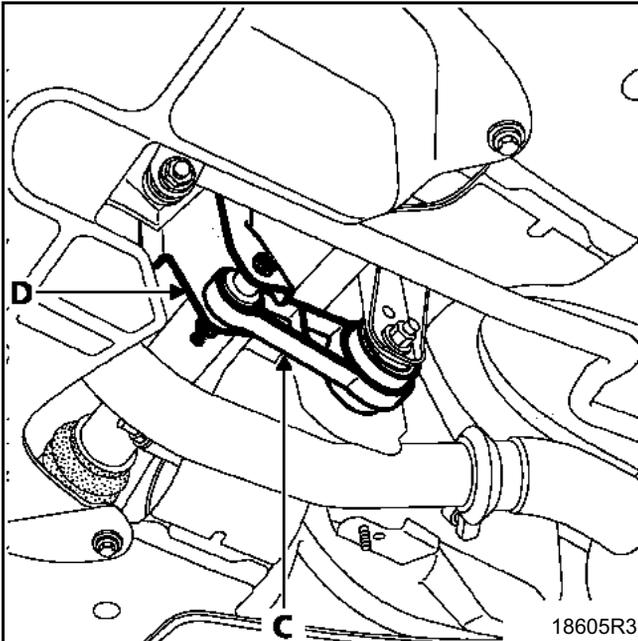
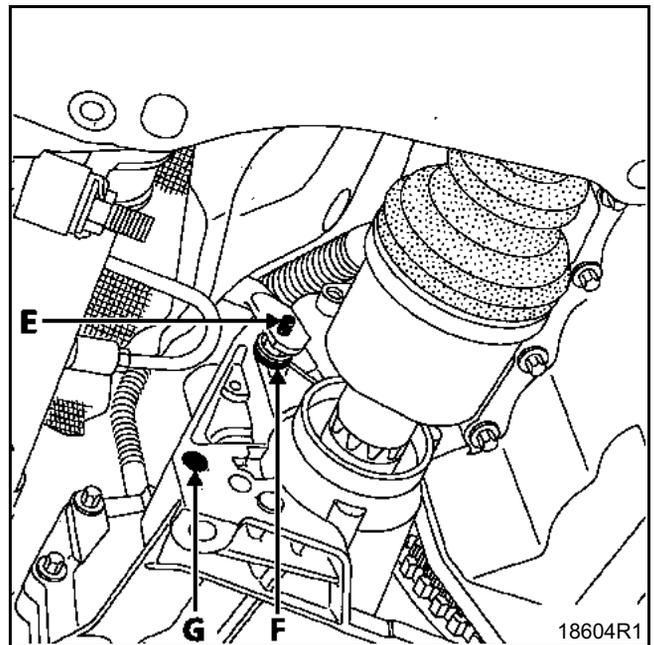

Fig. 2
Fig. 3
- Fit a torque reaction arm (C in Fig. 2).
– The mounting (D in Fig. 2) **Part Number.: 77 00 419 509**
– The torque reaction arm (C in Fig. 2)
- The catalytic converter flange mounting bolt (E in Fig. 3).
Replace the original 5 mm (F in Fig.3) with a 2 mm washer **Part number.: 77 03 053 075.**
– The mounting (D in Fig. 2) **Part number.: 77 00 419 509** by attaching it at the lower end (G in Fig. 3)
Part number.: 77 03 101 175 and at the upper end to the catalytic converter flange mounting bolt (E in Fig. 3).